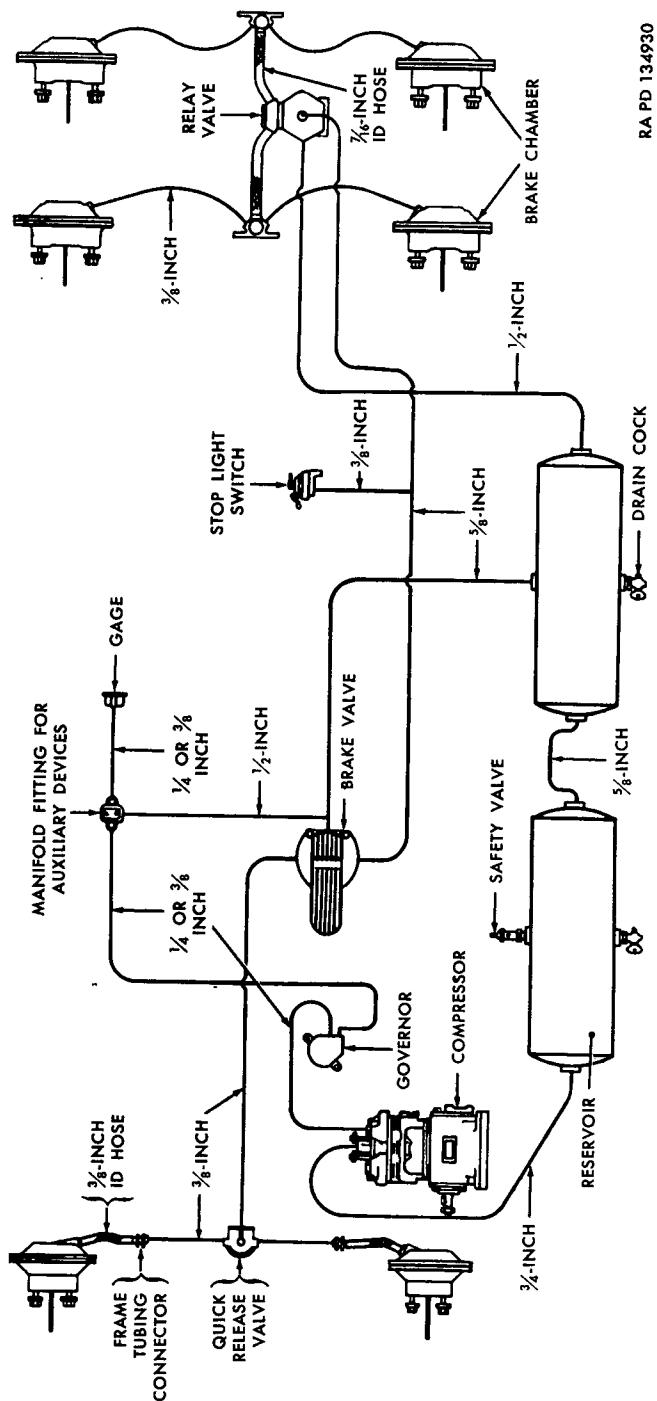

Figure 9. Typical piping diaphragm for six-wheel truck air brake system.
a. Six-Wheel Trucks. A typical piping diagram, showing the essential air brake devices for six-wheel trucks is shown in figure 9. The compressor delivers air to the first of two connected reservoirs. An air line from the second reservoir leads to the brake valve; a branch from this line delivers reservoir pressure to the compressor governor at all times. The function of governor is to maintain reservoir pressure within predetermined limits. At the high limit, governor admits reservoir pressure to an unloading device in compressor head, stopping compression until reservoir pressure reaches the low limit. At low limit, governor releases unloading device and compression is resumed. An air line from second reservoir leads to a relay valve near rear axles. The brake valve delivers air pressure to front brakes through a quick release valve, and to rear brakes through a relay valve. The quick release valve permits exhaust of air from front brake chambers at the valve without necessity of air travel back to brake valve. The relay valve provides quick brake action at rear wheels. When brake valve delivers pressure to relay valve, the relay valve admits the same pressure to all rear brake chambers from the reservoir. This valve also provides for quick release at the valve. A stop light switch is operated from the service line to relay valve (fig. 9).